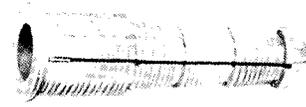

Fig. 18 — Plastic Anchor
3.17 *The plastic anchor* is intended for use with wood screws when making attachments to masonry, see Fig. 18. Table G gives the sizes.